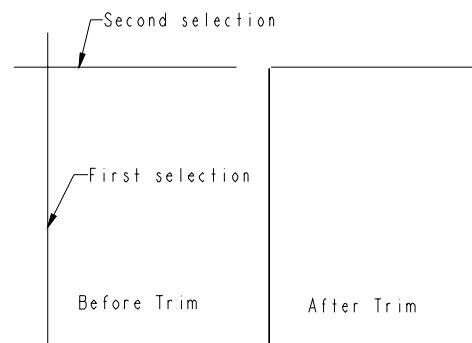

Figure 1-17 Trimming the lines
2. Click to select the two entities on the sides you want to keep after trimming, see Figure 1-17. These two entities must be intersecting entities. The entities are trimmed from the point of intersection.